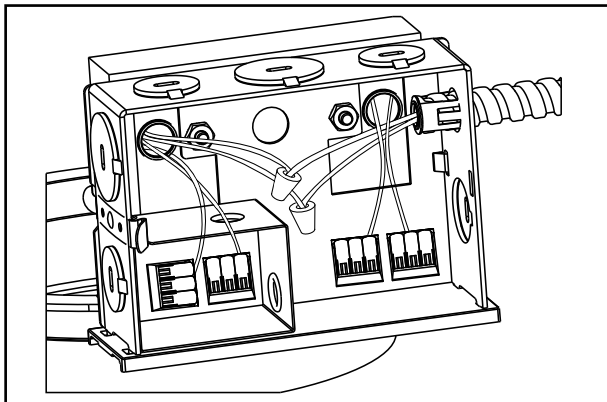

Figure 14
3. Remove one of the junction box covers. Connect supply lead wires to lead wires of driver as per Wiring Diagram and in accordance with your local electrical code(s) or N.E.C. (Figure 14.).
1. Provide electrical service according to the “National Electrical Code” or your local electrical code to the junction box (located on the plasterframe). Supply wire insulation must be rated for at least 90°C. The junction box is listed for (4) #12 AWG (two in, two out) 90°C conductors and feed thru branch wiring for type IC and Plug in drivers for 120/277V only. For all other cases (8) #12 AWG (four in, four out) 90°C conductors and feed thru branch wiring for 120/277V only.
2. Remove junction box cover (Figure 14.).